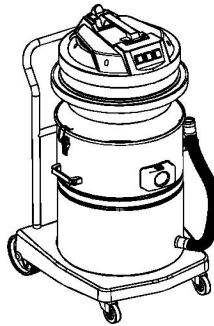

Figure 2
2. Put the machine head on the machine body and make sure the power switch centre in the machine head is aligned with centre of square connector. Then fasten the two buckles to fix the machine body. (Figure 2).